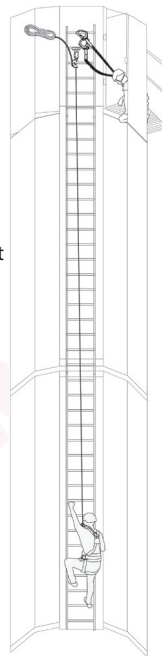

Figure 3
12. Climber 1 sets up a belay system for climber 2 by securing the sling at the top (around two rungs) of the structure, connecting the secondary descending device to the sling and placing the end of the rope inside the descending device (see Figure 3 to the right).
14. Climber 2 then connects the rescue sling that is connected to his back connection point on his harness and secures the other end of the rescue sling to the rope then climber 1 belays climber 2 up to safety as per Figure 3.